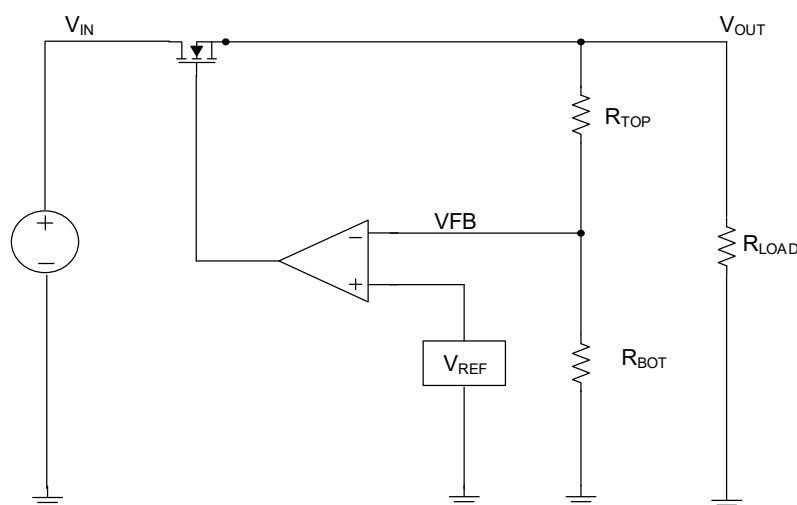

Figure 42. Simple NMOS LDO Regulator Block Diagram
Like the majority of LDOs with an NMOS pass transistor, the RAA214035 output voltage (V_{OUT}) regulation can be modeled with a voltage reference (V_{REF}), feedback (FB) resistors, error amplifier, and NMOS pass-transistor as shown in Figure 42.